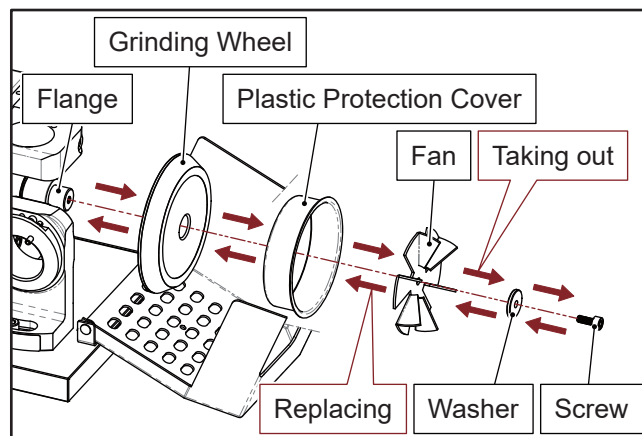

Fig. 10-3
- ④ Loosen the screw from the grinding wheel to take off the grinding wheel. (Fig. 10-3)
- ⑤ Use clean cloth to clean the flange and the contact surface of the grinding wheel.
- ⑥ Replace the new grinding wheel and fasten the screw. (Fig. 10-3)
- ⑦ Close the grinding wheel cover and secure with screw.